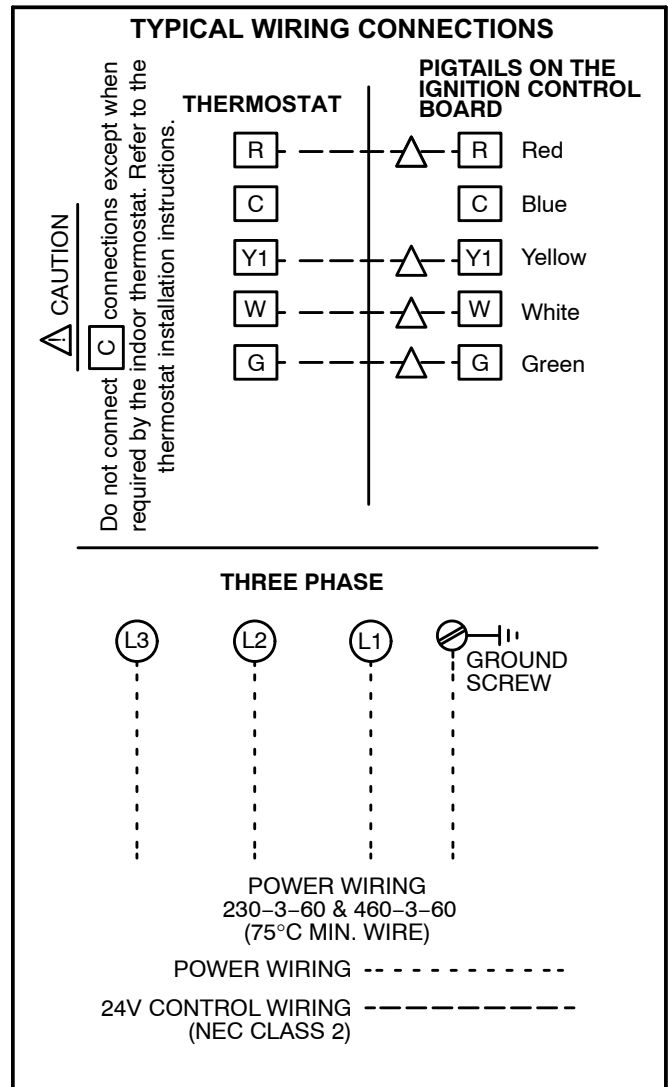

FIGURE 8
- 3- Connect thermostat wiring to leads in control panel. Wire as shown in figure 8 for electro-mechanical and electronic thermostats.